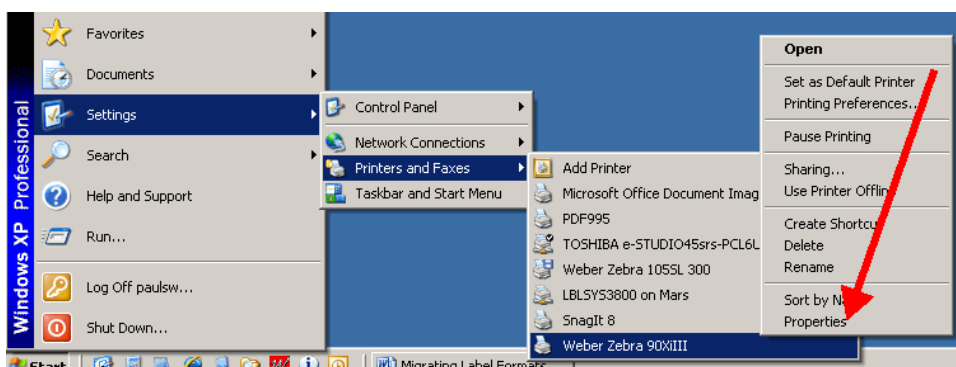

Figure 24
29. Choose Properties from the quick-pick menu. (Figure 24)